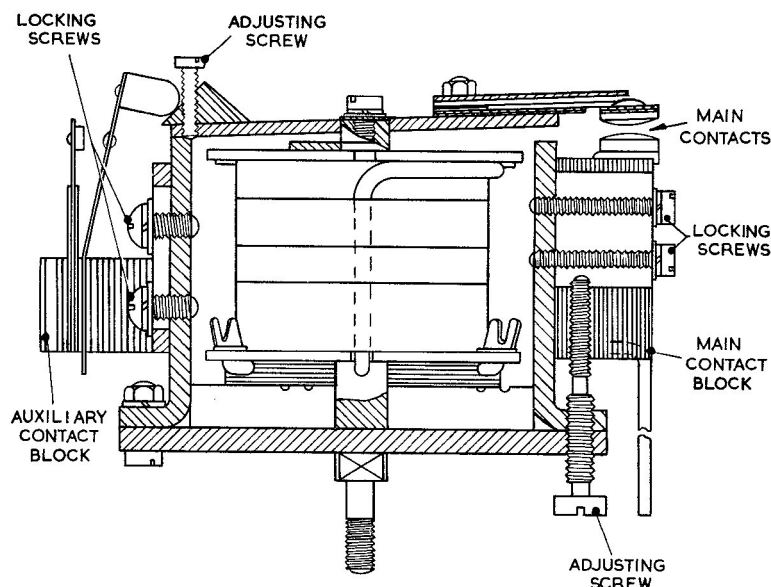

Fig.3. Sectional view of cut-out.
20. Adjust the main contact block (*fig.3*) by means of the adjusting screw, to give an armature gap of 0.005 in. when the main contacts are fully closed by hand. The locking screws should be left just sufficiently slack to permit final adjustments when testing.
**28. Closing test.** Slowly increase the generator speed until the cut-out closes, the differential voltage at cut-in, measured across terminals 1 and 2 should not be greater than 1.2V. This should be adjusted if necessary by means of the screw passing through the auxiliary contact block (fig.3), the screw should then be locked by the